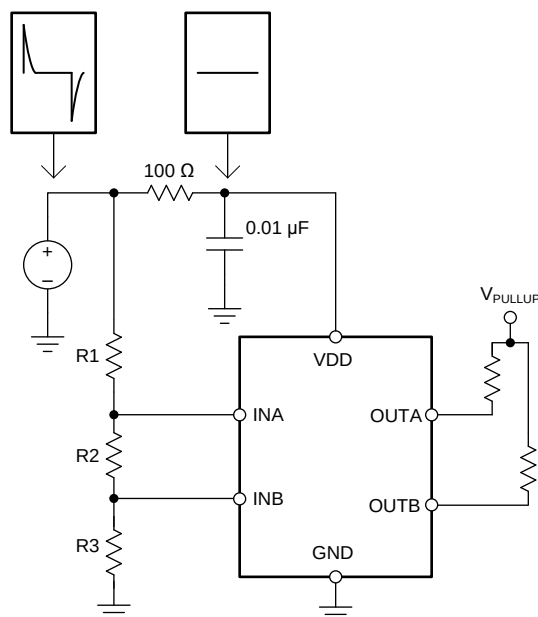

图 27. Using an RC Filter to Remove High-Frequency Disturbances on VDD
The TPS3701 has a 40-V absolute maximum rating on the VDD pin, with a recommended operating condition of 36 V. If the voltage supply that is providing power to VDD is susceptible to any large voltage transient that may exceed 40 V, or if the supply exhibits high voltage slew rates greater than 1 V/ μ s, take additional precautions. Place an RC filter between the supply and VDD to filter any high-frequency transient surges on the VDD pin. A 100- Ω resistor and 0.01- μ F capacitor is required in these cases, as shown in 图 27.
- Avoid using long traces for the VDD supply node. The VDD capacitor (C_{VDD}), along with parasitic inductance from the supply to the capacitor, may form an LC tank and create ringing with peak voltages above the maximum VDD voltage. If this is unavoidable, see 图 27 for an example of filtering VDD.